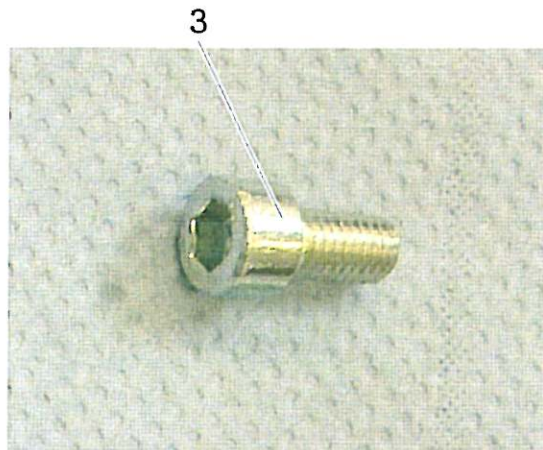
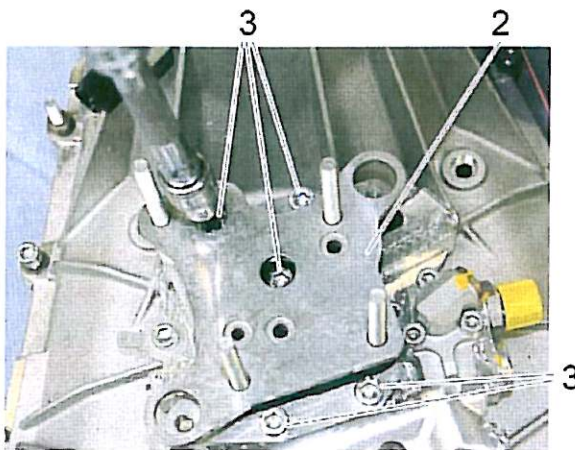

Figure 13
Figure 14
10. Place the vibration isolator (item 2) onto the adaptor plate (item 1). Hold the vibration isolator (item 2) in that position with one hand and attach the five screws (item 3) that were prepared with Loctite 243 in the last working step. Tighten up the five screws (item 3) to the specified tightening torque, starting with the screw in the middle and proceeding cross-wise. See Figure 13 and Figure 14.